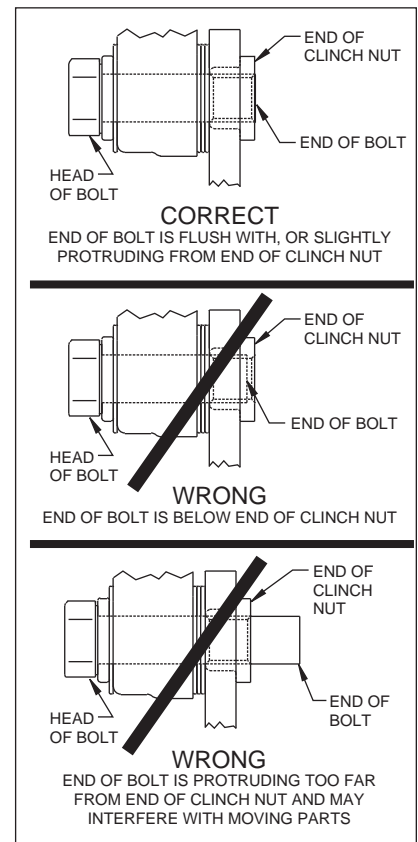

Figure 4.
•**NOTE:** Please reference the caution statement at the beginning of the assembly instructions. Mount the caliper (15) onto the caliper bracket (1) using washers (16) and bolts (17) and caliper spacers (18). Finger tighten. View the rotor (8) through the top opening of the caliper (15). The rotor (8) should be aligned in the center of the caliper (15). If not, adjust the caliper (15) by using 0.032 inch thick shims (19) placed between the caliper mounting bracket (1) and the caliper spacer (18). Use as many shims as necessary to obtain the correct alignment. Finger tighten. **NOTE:** The end of the bolt must be flush with or slightly protruding from the head of the clinch nut. See Figure 4. Place spare shims (19) between washer and caliper mounting ear to achieve the proper mounting fastener configuration. Always use the same amount of shims on both the top and bottom caliper mounting bolts (17). Apply red *Loctite*® 271 to bolt threads (17) and torque to 40 ft-lb. Caliper mount bolts may be safety wired for additional security.
•Install the disc brake pads (20) and secure using cotter pin (21).